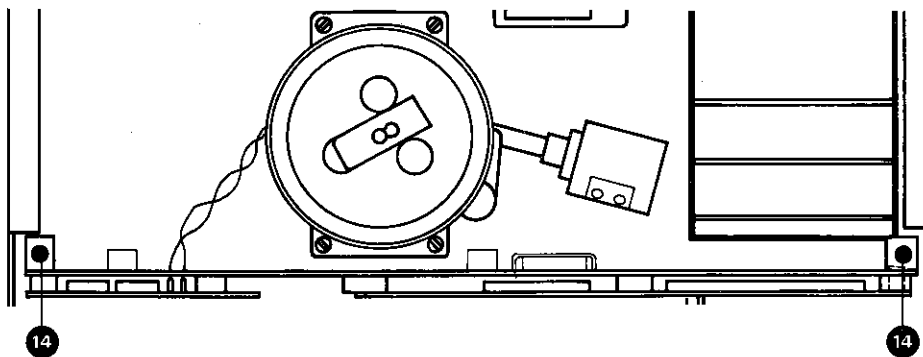

Fig. 3.4.-1
- 2 Schrauben (14) (Fig. 3.4. — 1) lösen.
- Remove 2 Phillips head screws (14) (fig. 3.4. — 1).
- Unplug tacho-head from the capstan speed control board (15).
- Oter les 2 vis (14) (Fig. 3.4. — 1).